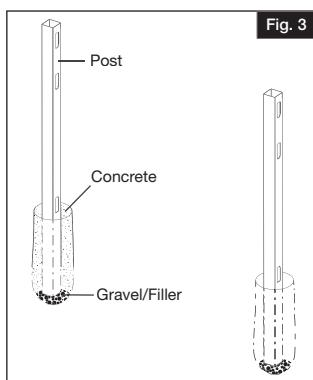

Fig. 3
- Add wet or dry concrete mix according to manufacturer's instructions to the top of the first post hole only and assure your post remains level (Fig. 3).